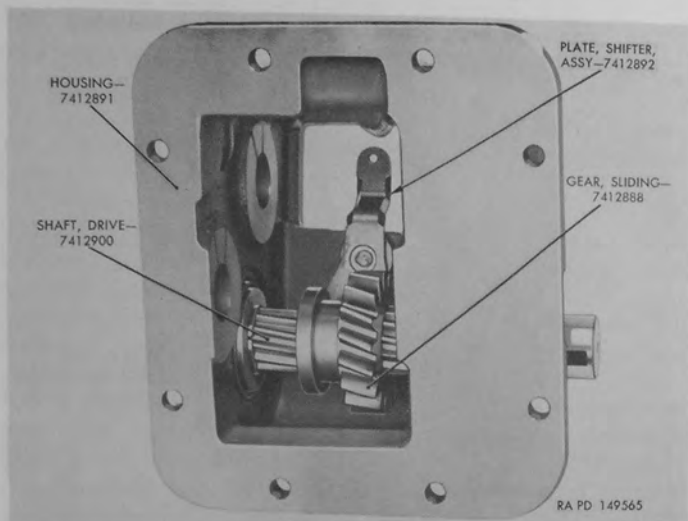

Figure 92. Power take-off drive shaft and sliding gear installed.
g. Press rear bearing cup (PP) into drive shaft rear bearing cap (MM); then, using two rear bearing cap gaskets (NN), install drive shaft rear bearing cap on housing and retain with four $\frac{5}{16}$ -18 x 1 cap screws (KK) and copper washers (LL). Tighten cap screws gradually, meanwhile turning drive shaft by hand to detect any tightness at bearings. If tightening cap screws causes tightness in bearings, remove rear cap and use thicker gaskets or add one 0.010-inch gasket. When sufficient gaskets have been selected to prevent tightness at bearings, tighten rear bearing cap attaching cap screws firmly.
Note. Shoe on shifter plate assembly (SS) must engage groove in sliding gear. Figure 92 shows drive shaft and sliding gear installed.